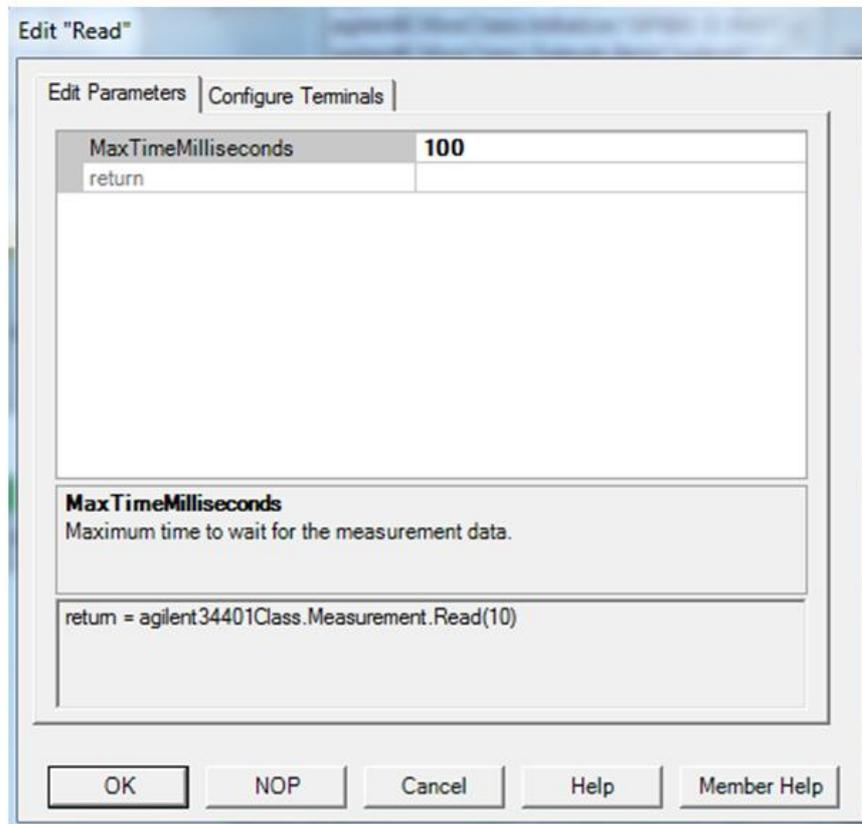

Fig. 21: Adjusting maximum time to wait for the measurement data
34) Enter **100** into the **MaxTimeMilliseconds** area as shown in Fig. 21 and click **OK**.